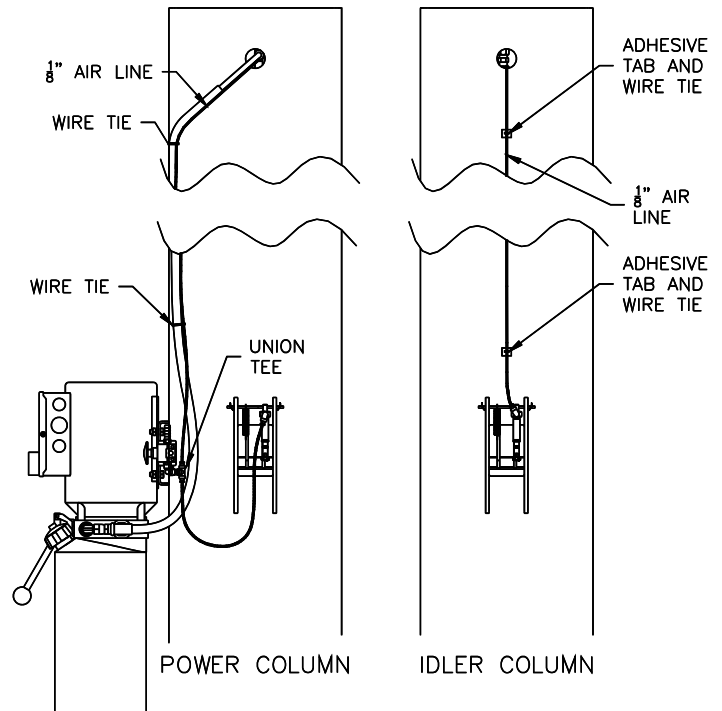

Fig. 16 – Lock Release
- 32) On the Power Column, attach the 1/8" air line from the lock release air cylinder to the bottom of the push-lock tee fitting, **Fig 16**.
- 33) Connect the rest of the 1/8" air line to the top of the tee and run it along side the hydraulic hose up the column and across the overhead attaching it to the hydraulic hose with wire ties (**Fig 16**).
- 34) At the Idler side feed the air line thru the opening in the column extension and down the column using adhesive tabs and wire ties. Attach it to the lock release air cylinder (**Fig. 16**).